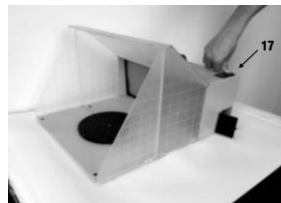

Fig. 9
1. Press the shrink button (#17) to retract the power cord and close the door (Fig. 9).